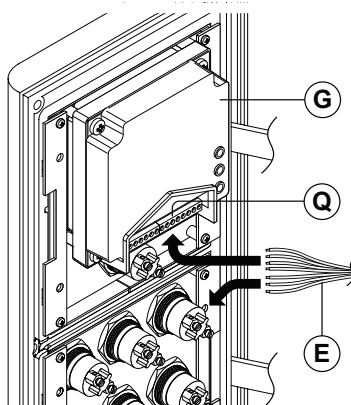
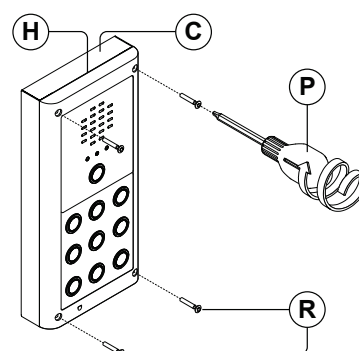

Fig. 61
Fig. 62
8. Take the cable wires **(E)** and make the required wiring connections into the terminals **(Q)** on the back of the module **(G)**, as shown in **Fig.61**, using the screwdriver provided **(P)** (from **Fig.62** and using the flat blade end);
10. After the system has been tested and is working correctly, move back the module support frame **(H)** carefully and then fix it to the surface box **(C)** using the screwdriver provided **(P)** (using the torx end) and the torx pin security screws provided **(R)**, as shown in **Fig.62**. **Note: do not over tighten the screws more than is necessary.**